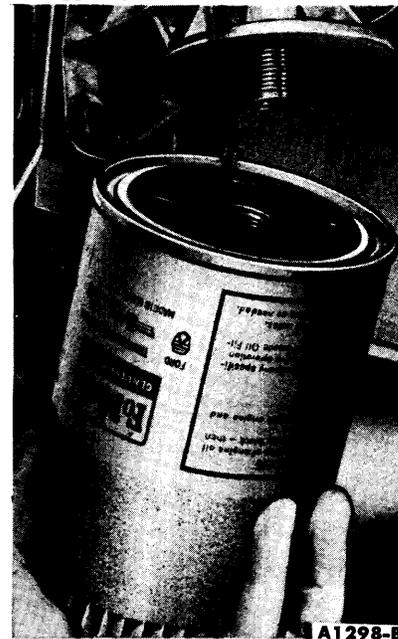

FIG. 70—Oil Filter Replacement
2. Coat the gasket on the new filter with oil, and place the filter in position on the adapter (Fig. 70). Hand tighten the filter until the gasket contacts the adapter face, then advance it ½ turn.